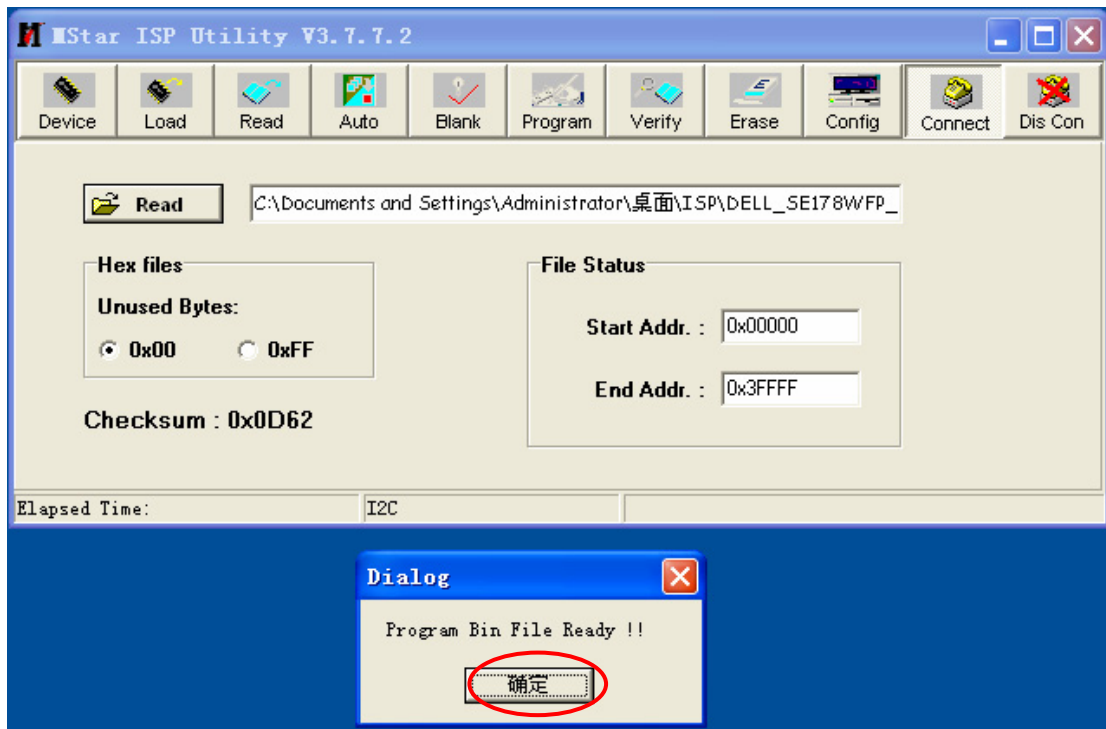
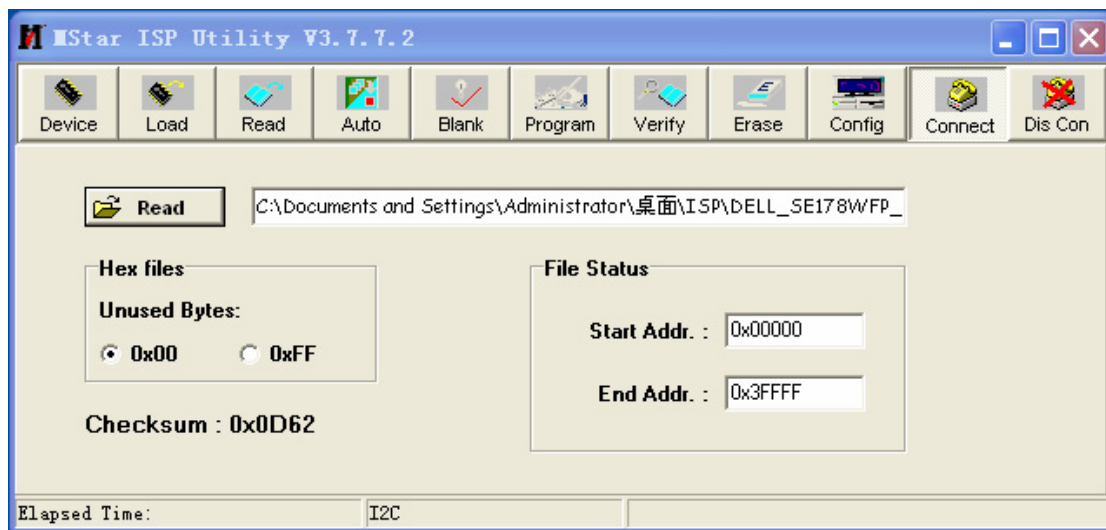

Fig.4
Fig.5
Step3: Click open and OK, bring up Fig.4 and Fig.5